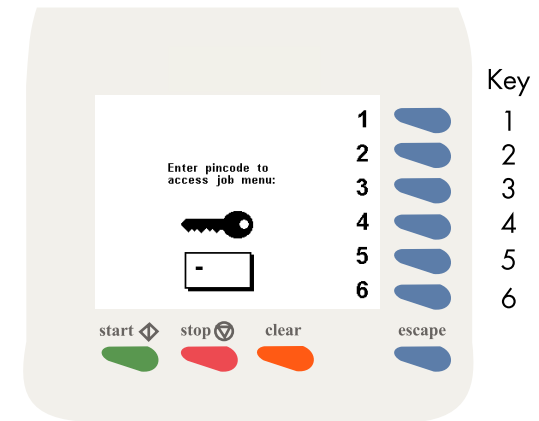

Fig. 23
When key 6 in the "main menu" is pressed the display shows the screen in Fig. 23. Only the supervisor can get access to the job settings after entering the correct code.